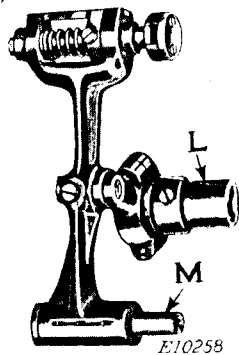
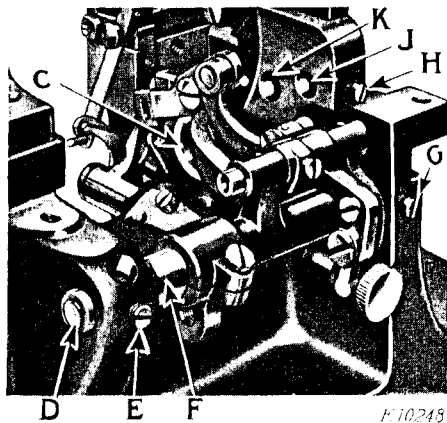

FIG. 37
FIG. 36
When inserting the hinge pin (D, Fig. 36) of the feed rock shaft make sure that the wick at each end of the pin is directly over the slots in the bushings. Then slightly tighten the set screws (E and G).
Insert the feed lifting eccentric (L, Fig. 37) into the hole (C, Fig. 36) of the feed lifting eccentric connection and insert the end of the knife lever hinge stud (M, Fig. 37) into the hole (K, Fig. 36) of the casting, having the flat in the hinge stud in position to receive the set screw (G, Fig. 14). Then securely tighten the set screw.
Insert the presser lever hinge stud (A) into the hole (J, Fig. 36) in the casting, having the flat in position to receive the set screw (H, Fig. 36), then firmly tighten the set screw.
(SEE FIG. 36)
After the feed dog is installed, place the throat plate in position. The correct position of the feed dog between the bars of the throat plate is obtained by moving the feed rock shaft (D, Fig. 36) to the right or left as desired. Then bring the bushings on each side close up to the ends of the feed rock shaft bearings and firmly tighten the set screws (E, and G, Fig. 36).